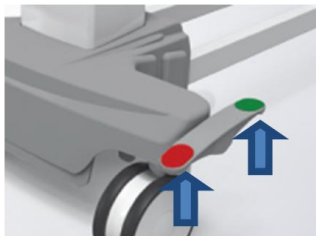

Figure 9b. Unlocked
2. Free Position: Leave the brake pedal in the middle position, as shown in Figure 9b, to release all wheels, allowing free movement of the bed.